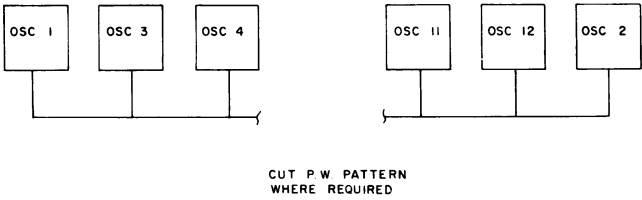

Figure 2 - Block Diagram
3. Assemble oscillators #3 through #12 on the system board according to Figure 2, Oscillator Module Installation. Refer to the Table of Contents for MULTI-FREQUENCY MODIFICATIONS.
4. Figure 2 - Block Diagram shows how the oscillators are connected to the front ends. In the standard Multi-Frequency Option F1 selects oscillator #1 and F12 selects oscillator #12. F1 or any of the frequency positions can be re-connected to any of the oscillators positions by plugging the plug from the